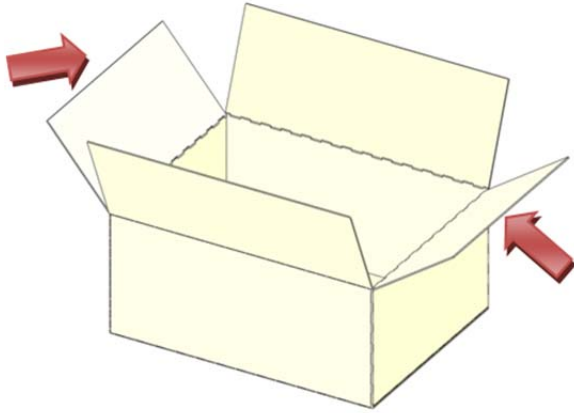

Figure-24
- i. Fold Minor Flaps In As Shown In **Figure-24**